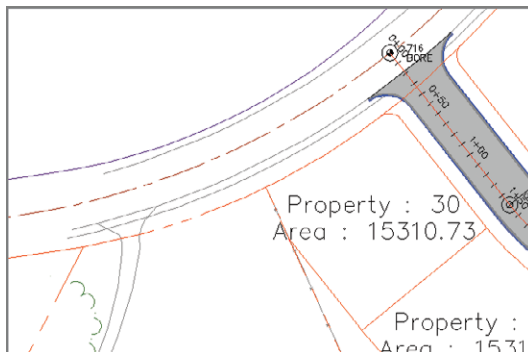

FIGURE 12.16 Trimming the parcel segment has removed the small triangular parcel.
5. When you're prompted for the objects to trim, click the west side of the small triangular parcel. The *Property : 26* parcel disappears (see Figure 12.16), and the area of *Property : 27* is updated